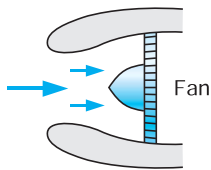

FIGURE P6.30
- 6.30** The front of a jet engine acts as a diffuser, receiving air at 900 km/h, -5°C , and 50 kPa, bringing it to 80 m/s relative to the engine before entering the compressor (see Fig. P6.30). If the flow area is reduced to 80% of the inlet area, find the temperature and pressure in the compressor inlet.